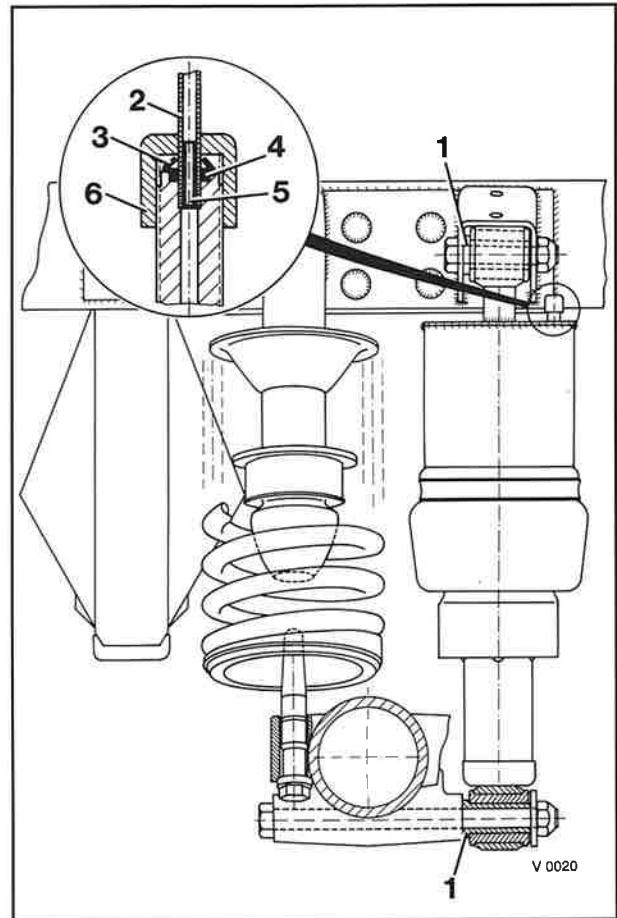

Fig. 22
- 29 Coat fastening scrow to shock absorber over the whole length with Loctite Anti-seize, mount acc. to fig. 22 and tighten to 200 Nm. Lower wheel drive and remove jack.